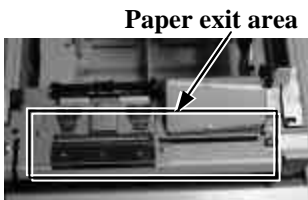

Fig 1 Paper exit area
2. Use the attached soft brush to clean the area of the paper exit as indicated in Fig.1.